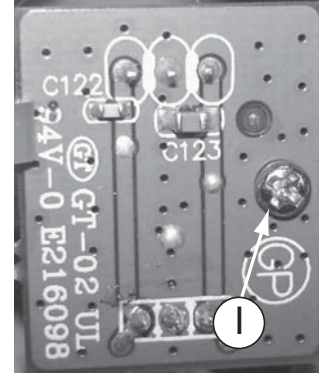

Figure 11
- 2) Loosen 1 screw "I" on the top of IR Board as shown in figure 11.